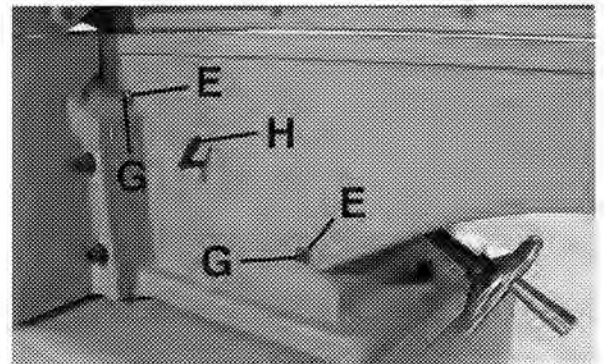

FIGURE 33
2. To adjust the out feed table, loosen locking lever (H) Fig. 33. Loosen two lock nuts (E) and tighten or loosen two adjustment screws (G) as necessary. **NOTE:** Adjust the lower adjustment screw first and as you proceed to the upper adjustment screw, gently raise the outboard edge of the table. This will offset any tendency for the table casting to "droop or sag" and permit the gib to be adjusted to the proper fit to the upper adjustment screws. Tighten two lock nuts (E) locking lever (H).